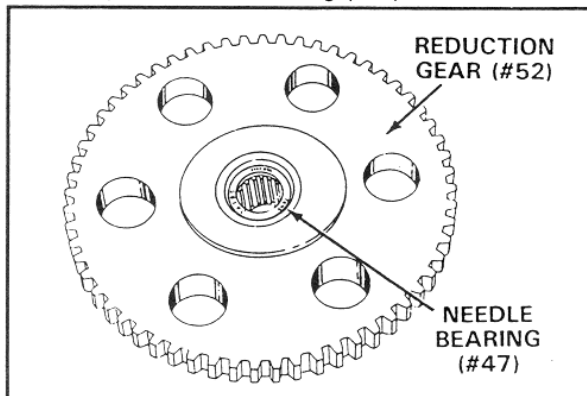

FIGURE 11
- 5.20 **NOTE:** Needle bearing (#47) must be positioned with the bearing numbers toward the 60 tooth side of the reduction gear (#52). See figure 11.